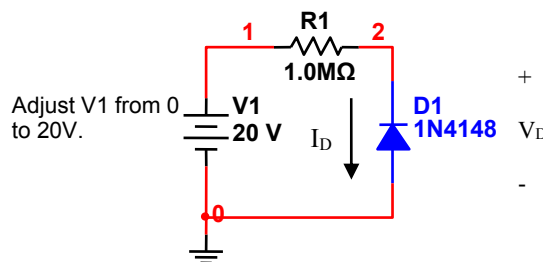

Figure 1-2.
- 1.3. In order to measure the *Reverse Bias V-I Characteristic* of the diode, swap the direction or polarity of the diode and replace R_1 with a 1M Ω resistor as shown in Fig. 1-2. Sweep the power supply from 0 to 20V in increments of 2V. Record the voltage drops across D_1 and R_1 , and calculate the current (I_D) for each data point. Use these measurements to plot the *Reverse Bias V-I Characteristic* of the diode. NOTE: V_D and I_D values should be indicated as negative values for reverse bias.